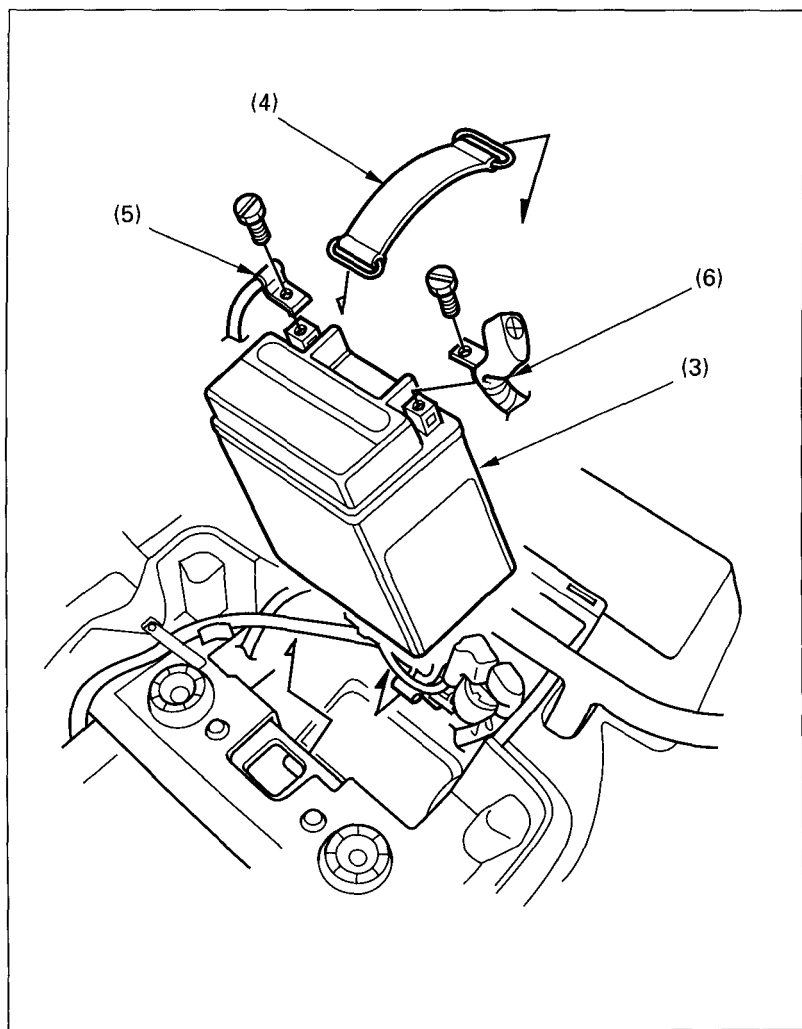

Fig. 4-20 (3) Battery
4. Release the rings and remove the rubber band (4). (Fig.4-20)
5. Disconnect the negative (-) terminal lead (5) from the battery (3) first, then disconnect the positive (+) terminal lead (6).